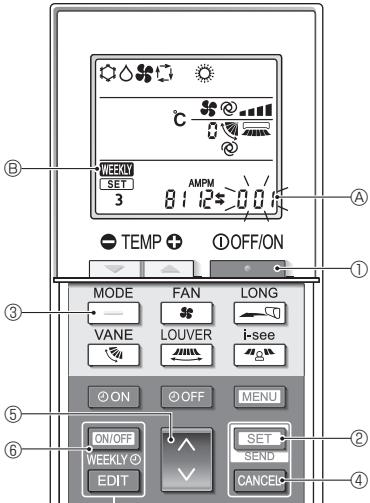

Fig. 5-16
5.13.8. How to disable Auto mode operation (Fig. 5-16)
- Press the **—** button ① to stop the air conditioner.
- If the weekly timer is enabled, press the **ON/OFF** button ⑥ to disable the timer. (**WEEKLY** Ⓑ disappears.)
- Press the **SET** button ② for 5 seconds.
- Press the **▼** button ⑤.
- Completing the settings (Fig. 5-16)